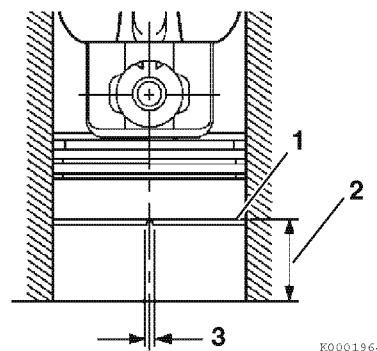

Figure 6-55
10. To measure piston ring end gap, insert each compression piston ring (1, **Figure 6-55**), one at a time, into the cylinder. Use a piston with the piston rings removed to slide the ring into the cylinder bore until it is approximately 1.18 in. (30 mm) (2, **Figure 6-55**) from the bottom of the bore.
11. Remove the piston. Measure the end gap (3, **Figure 6-55**) of each piston ring. Record the measurements. See *Piston ring on page 6-10* for specifications.